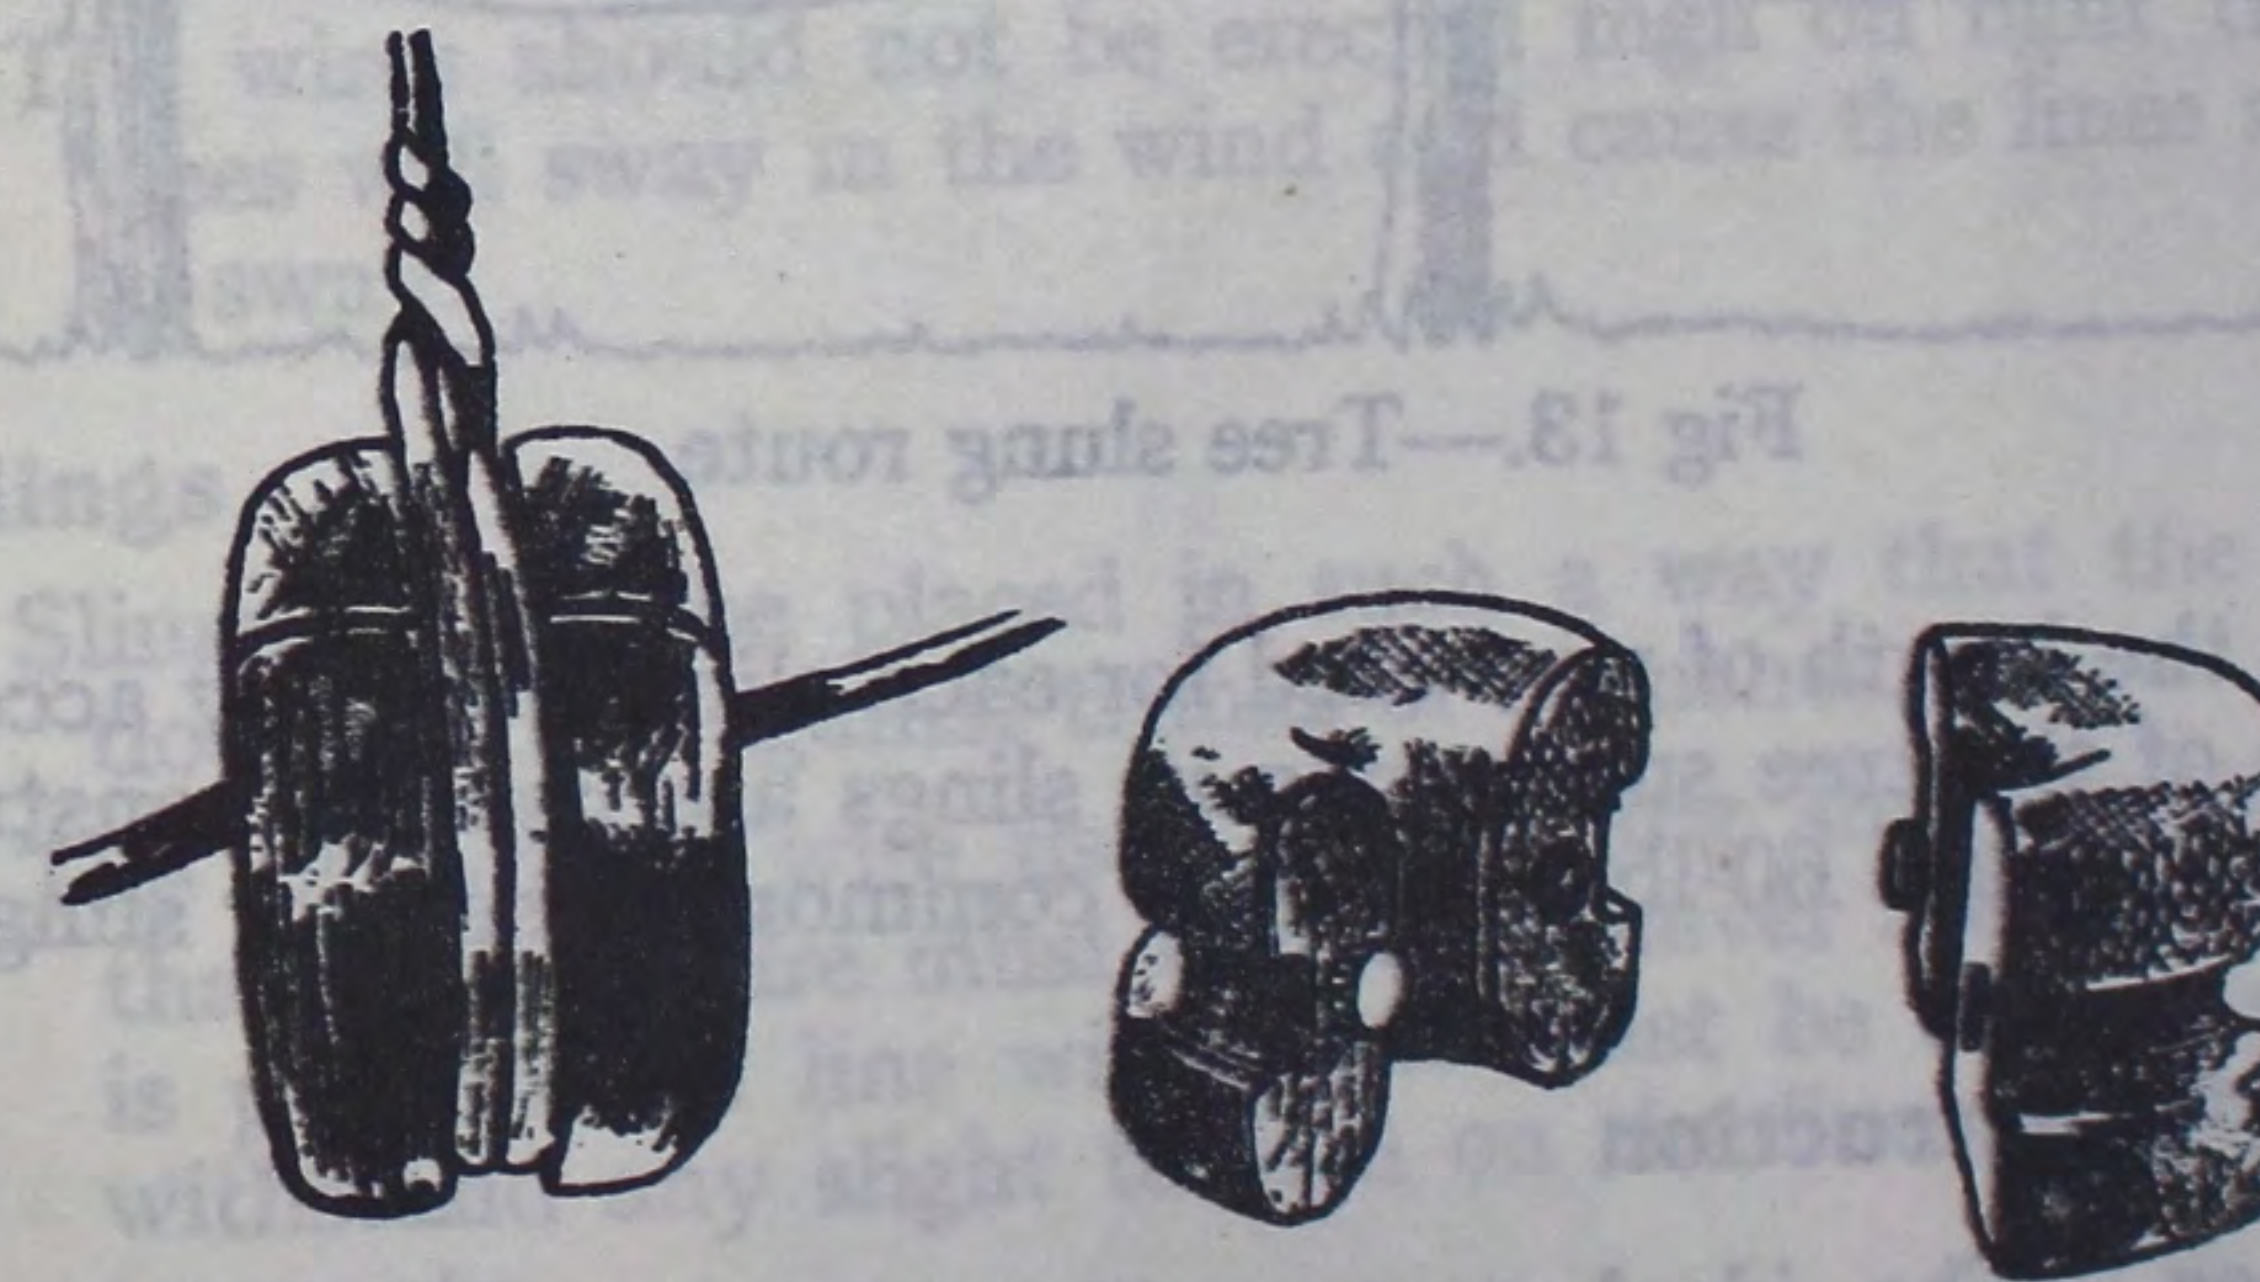

Fig 12.—Insulator, hanging, No. 2
1. **Insulators.**—*Insulators, hanging, No. 2* (see Fig 12) are used. Care must be taken to ensure that the two halves of the insulator are firmly bound together.